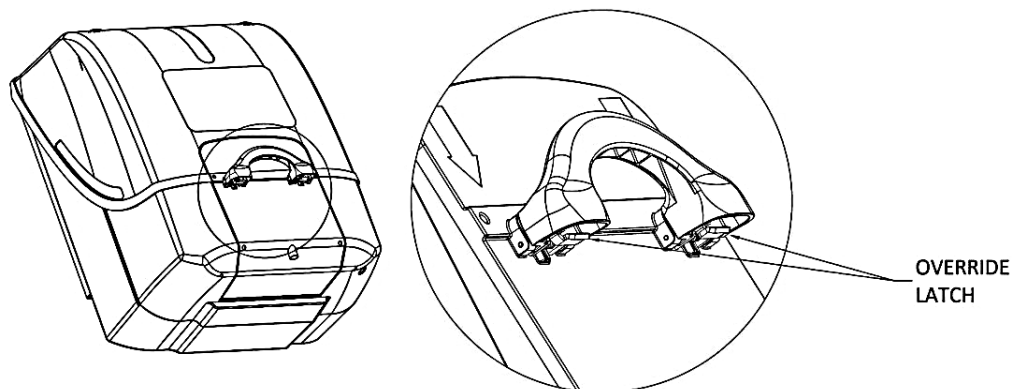
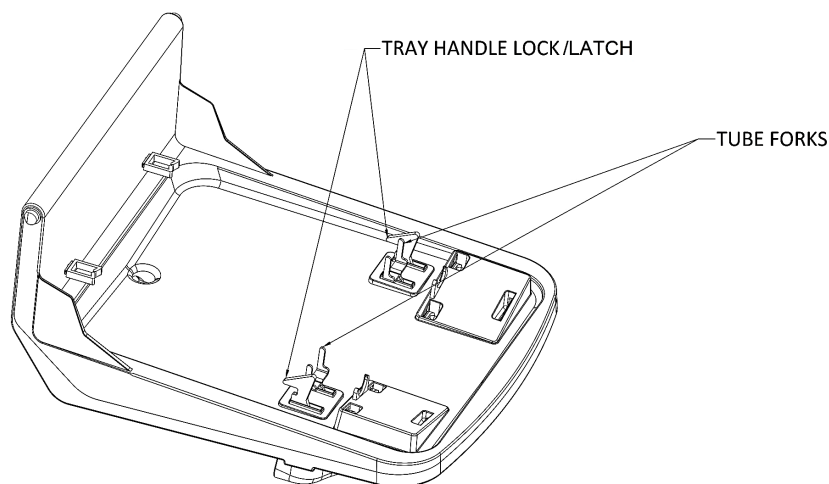

FIGURE 16
FIGURE 17
- B. To inspect Tray Assembly utilizing Supervisory Override Latch. Override Latches are located on underside of handle (**Ref Figure 16**). Both latches must be depressed to allow tray to open.
- A. With the tray open, carefully remove nozzle assembly (**Ref. Step 6-D**) and inspect area, including tray forks and tray handle locks (**Ref. Figure 16**) for any deformities or corrosion.
- B. With the tray open and nozzles removed, Function test tray handle lock/latch by pressing the override lock/latch (**Ref Figure 16**) and operating the locks tray handle lock/latches should move back and forth smoothly in their slots (**Ref Figure 17**).